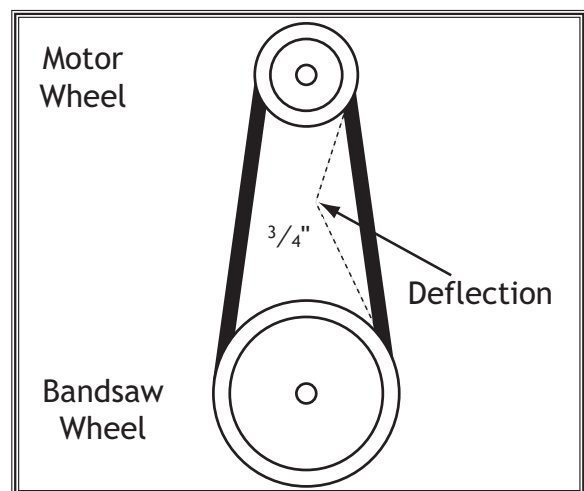

Figure 67. V-belt deflection.
4. Push the center of the V-belts. Note the amount of deflection (**Figure 67**). If deflection is more than $\frac{3}{4}$ ", tension the V-belt.
4. Push the center of the V-belt. If deflection is approximately $\frac{3}{4}$ " with moderate pressure (see **Figure 67** **Page 47**), then the tension is correct. If the deflection is more than $\frac{3}{4}$ ", repeat **Step 3**.